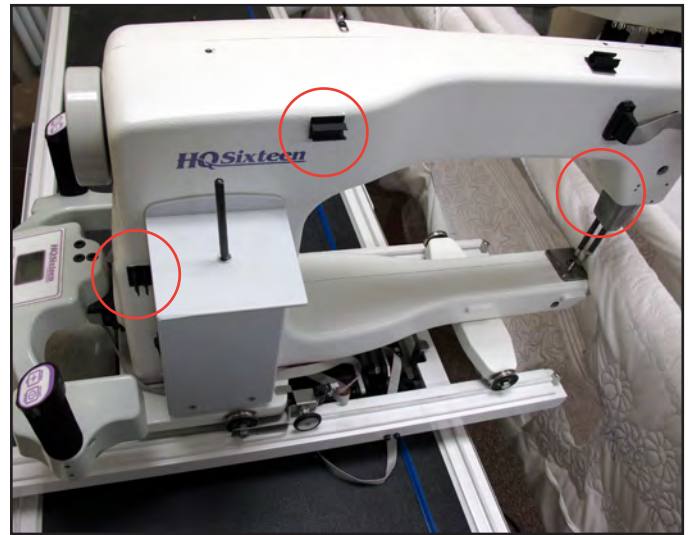
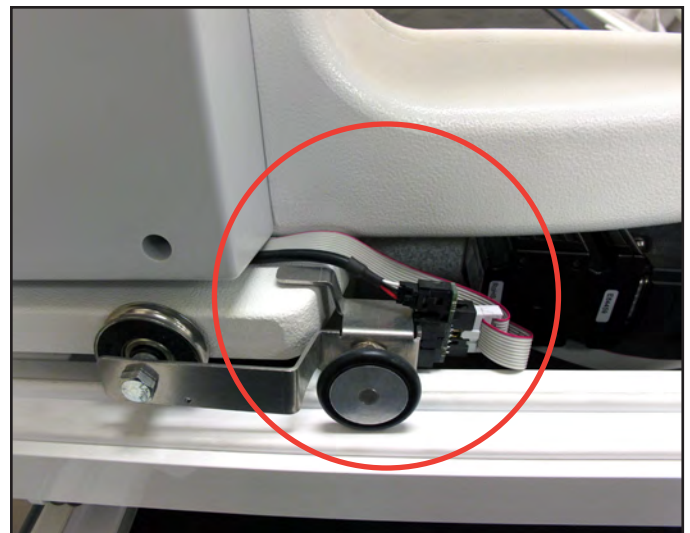

Figure 3.51
Figure 3.52
11. The black cables attached to the HQ Pro-Stitcher carriage should be routed up between the rear handles and the quilting machine, toward the right-hand side of the machine (looking at the machine from the back). Place the black cable clips as shown (**Figure 3.51**) and route the cable accordingly. The small black cable with the black 3-connector clip should be routed underneath the P-Pod and snapped into the Stitch Regulator Adapter Board (Page 3.16, J) (**Figure 3.52**).